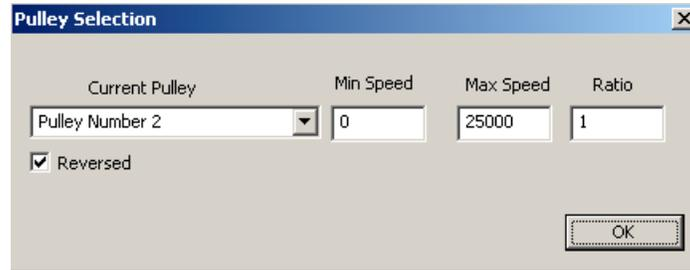

Figure 6 – Mach3 Spindle Motor Tuning Configuration
- (5) Go to the "Config", "Spindle Pulleys" menu. Mach3 shows you the currently selected pulley, along with the minimum and maximum spindle speed. These are the min and max values that you can use for the "S" command to set the spindle speed. Change them if you want, or at least make note of the values (see Figure 6). Click on "OK".
- (1) Go to the Mach3 "MDI" screen (click on the "MDI" tab along to top of the screen or press the ALT key along with the number "2" key).
- (2) Press ENTER or click in the box to the left of "INPUT" to highlight the command input window.
- (3) Enter an "S" command to set the spindle speed to some value. For example, "S5000" sets the spindle speed to 5000 rpm). Press ENTER to finish the command. Note that the value you enter must be between the "Min Speed" and "Max Speed" values in your pulley configuration (see Figure 6). In our example, a speed of 5000 should generate a control voltage of 1/5th of full scale coming out of the PMDX-106 or PMDX-107.
- (4) Now enter an "M3" command (type M3 then press ENTER). The PMDX-106 or PMDX-107 should show that the "FWD" LED and relay are on and the PWM LED should be glowing.
- (5) Enter an "M4" command and the PMDX-106 or PMDX-107 should show the "REV" LED on.
- (6) Enter an "M5" command and the PMDX-106 or PMDX-107 should turn off the relays and the PWM LED should turn off.